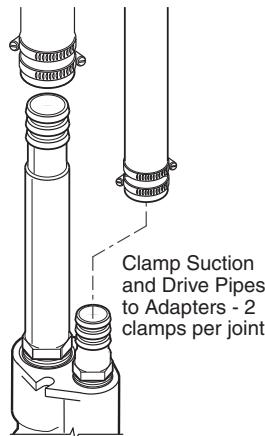

Figure 8
- Connect the plastic pipes to the adapters with hose clamps (See Figure 8); use two clamps per joint. Put the tightening screws on opposite sides of the pipe as shown.